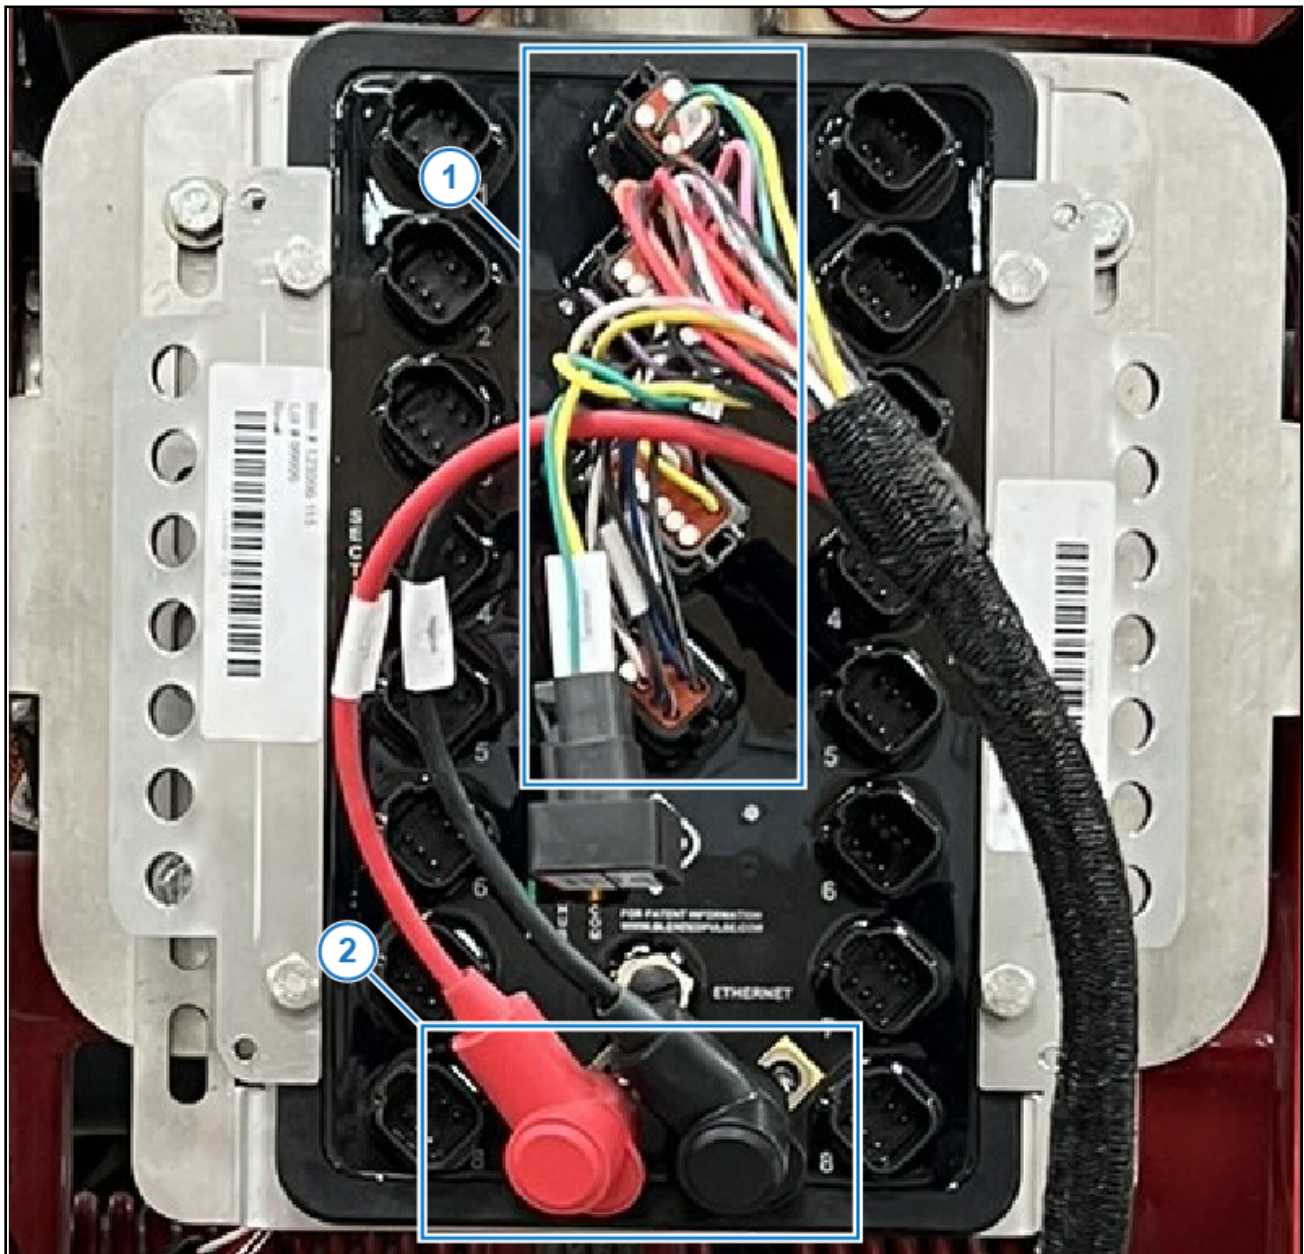

Figure 4: Hub Connections
5. Install the Servo, Pressure/Flow, ISO CAN/GPS, and Boom Switch connectors (Figure 4, Item 1) into the corresponding ports on the hub.
6. Connect the power and ground lugs to the positive and negative studs (Figure 4, Item 2) on the hub.